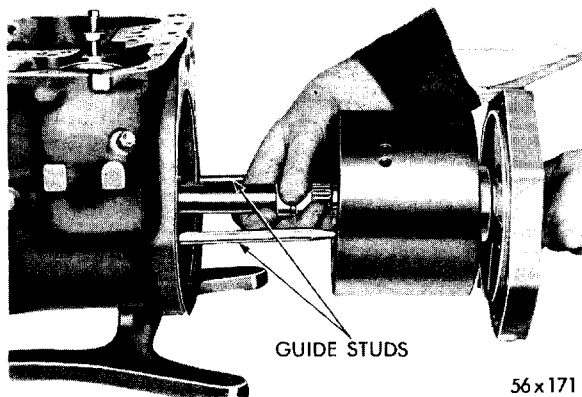

Fig. 19—Removing Output Shaft, Carrier Housing and Input Shaft Assemblies
(1) Remove output shaft support to transmission case screw and washer (Figure 13). Loosen reverse band adjusting screw and locknut to release any tension of reverse band on carrier housing. Grasping output shaft in both hands, carefully work shaft, planet pinion carrier assemblies, housing and support, out of transmission case, as shown in Figure 19. If support is stuck to transmission case and cannot be removed as described, lightly tap support with a soft hammer.
(2) Remove the large (tabbed) kickdown planet pinion carrier thrust washer from direct clutch piston